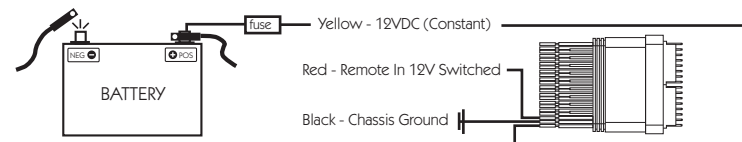

Fig. 3
5. Connect the black (Chassis Ground) wire from the re-Q⁵ to the chassis of the vehicle. Remove the paint at the ground location to connect directly to the bare metal of the chassis. When the re-Q⁵ is grounded at the same location as the amplifier, it functions as a ground loop isolator (Fig. 3).